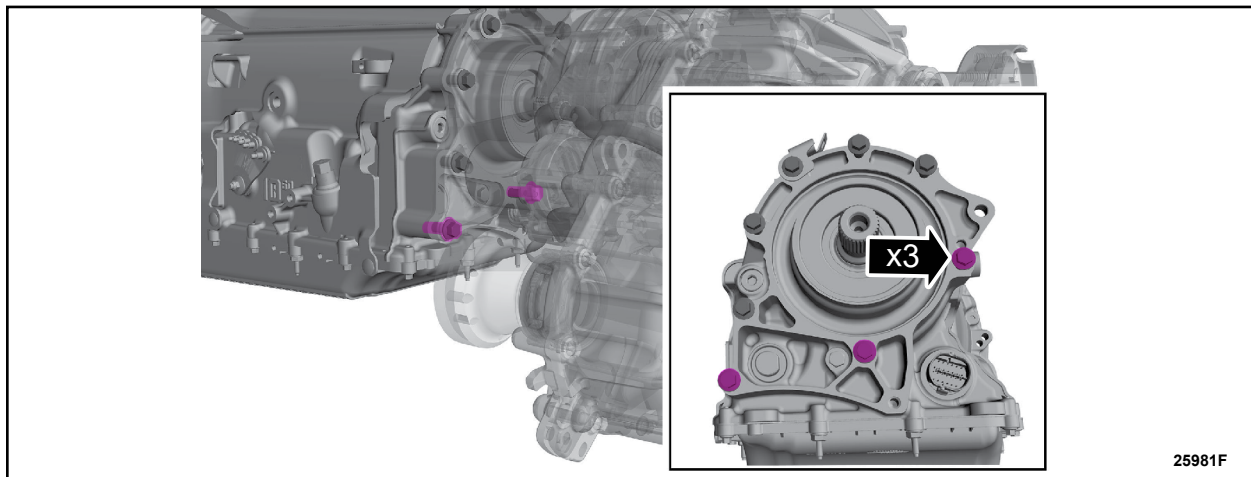
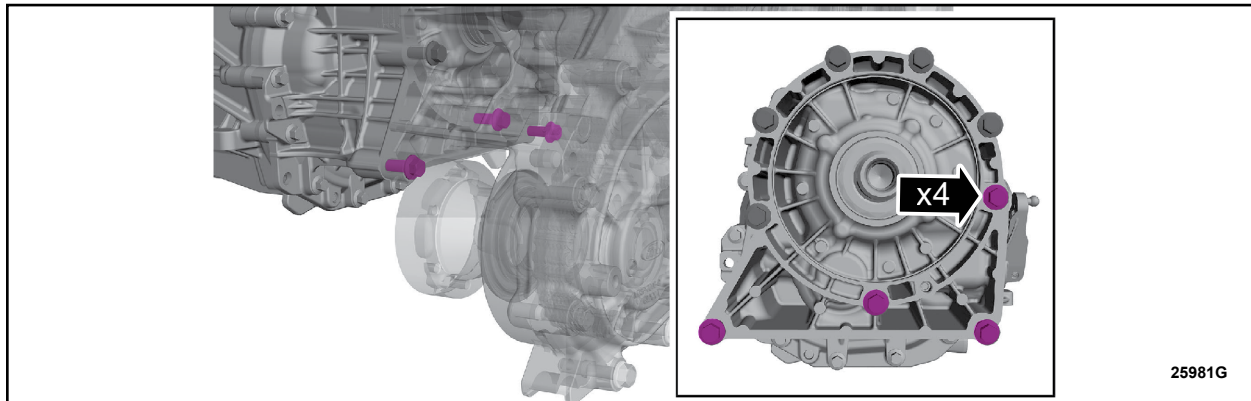

FIGURE 6
FIGURE 7
5. Check the tightening torque of the specified transfer case bolts. For vehicles equipped with an automatic transmission, see Figure 6 for transfer case bolt locations. For vehicles equipped with a manual transmission, see Figure 7 for transfer case bolt locations.
6. Torque the specified transfer case bolts. For vehicles equipped with an automatic transmission, see Figure 6 for transfer case bolt locations. For vehicles equipped with a manual transmission, see Figure 7 for transfer case bolt locations.